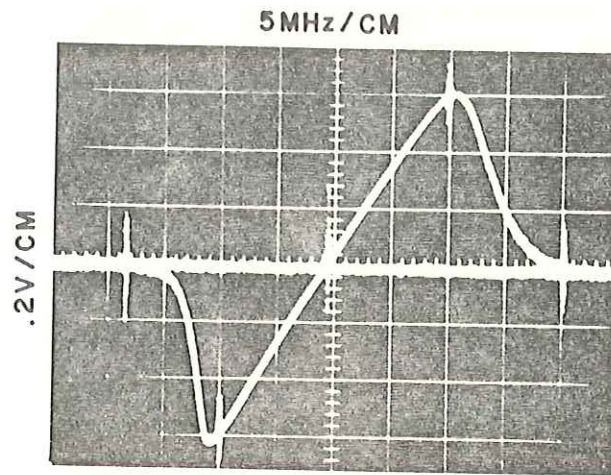

Figure 4-9. Typical Response, 160 MHz Limiter/Discriminator
- (8) Set the sweep generator output frequency to 160 MHz. Continue using the 160 MHz internal marker or the external marker source.
- (9) Adjust the oscilloscope and sweep generator controls to display a discriminator "S" curve.
- (10) Remove the vertical input to the oscilloscope and center the sweep trace at the zero "Y" axis gradicule.
- (11) Reconnect the vertical input to the oscilloscope. Insure the input is dc coupled to the vertical amplifier.
- (12) Adjust A7R27 for zero crossing at the 160 MHz marker point.
- (13) Adjust capacitors A7C20 and A7C21 for peak-to-peak symmetry. A typical response curve is shown in Figure 4-9.